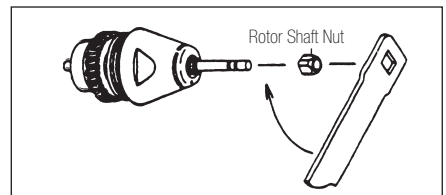

Fig.15
- Finally insert the rotor shaft nut along the test bur, and firmly tighten it with a wrench while holding the rotor. (Fig.15)